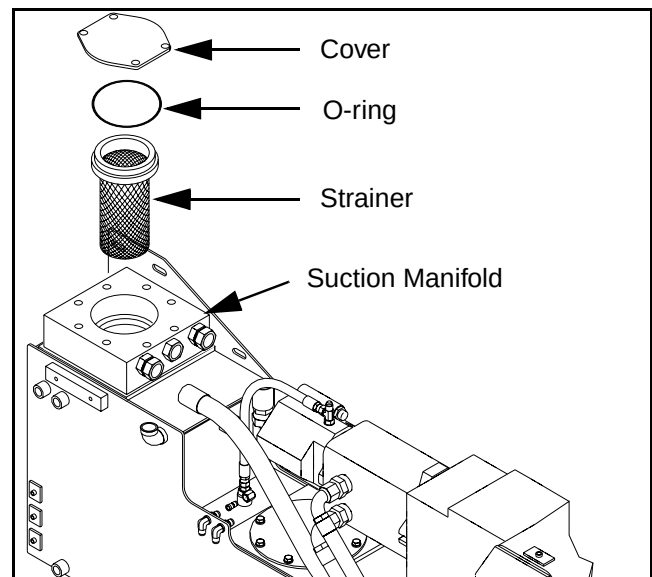

Figure 6 - 4 Suction Strainer
- 8) Remove the cover from the suction manifold to gain access to the strainer. (Figure 6 - 4)